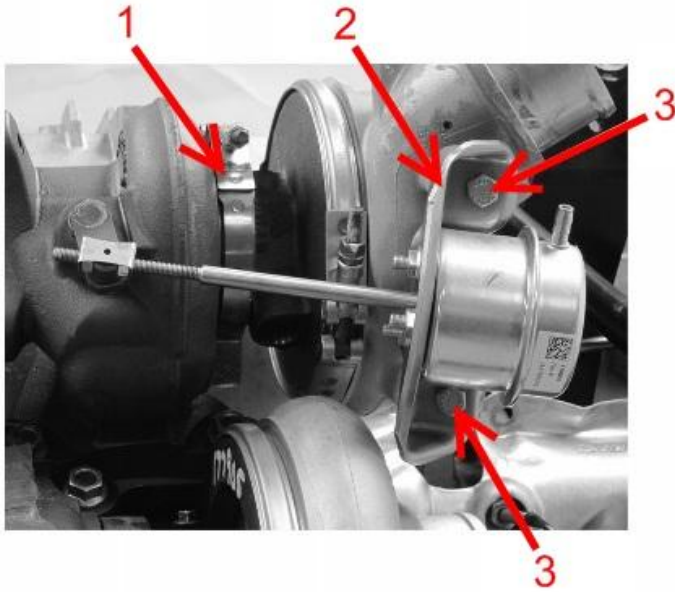

Figure 9: Turbo Wastegate Actuator
23. Remove two bolts (Figure 9, Item 3) and position wastegate actuator (Figure 9, Item 2) for access to HP turbocharger.
24. Remove turbine V-band clamp (Figure 9, Item 1) from HP turbocharger.